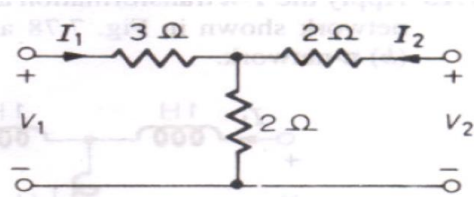

Fig. 7.74
10. Starting from fundamentals calculate the Network parameters of the network shown in Fig. 7.74.